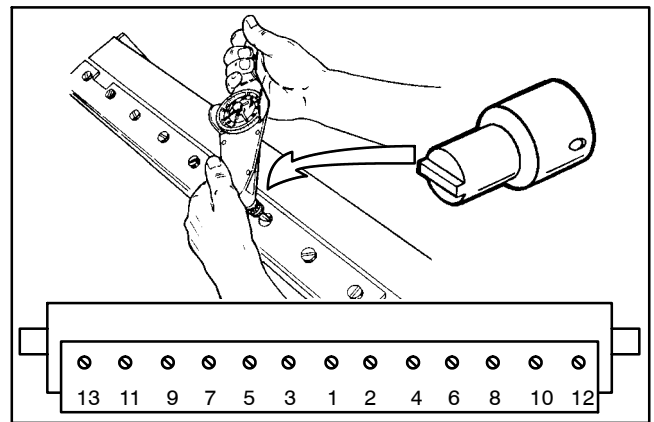

Figure 41
2. Using a torque wrench and bedknife screw tool, tighten screws to a torque of **200 to 250 in-lb (230 to 288 kg-cm)**. Use a torquing pattern working from the center toward each end of the bedknife (Fig. 41).